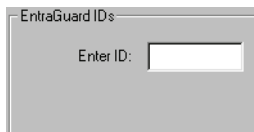

Figure 10-34: Enroll One User ID Field
1. To enroll one operator assigned User ID, click on the  button. The Enroll EntraGuard User IDs window will reveal the following field (see Figure 10-34).